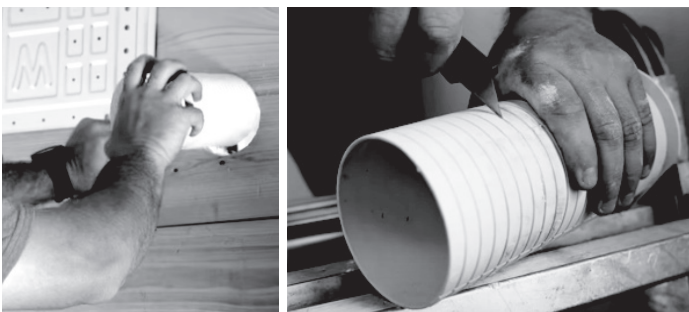

Fig. 5.4
3. Insert the protective wall sleeve through the hole of the inside wall, noting the amount it protrudes from the exterior wall. Then, trim the excess, with a utility knife or a saw, to make it flush with the exterior wall. This will protect the edges of the hole and help seal it when you finish the installation process (See Fig 5.4).